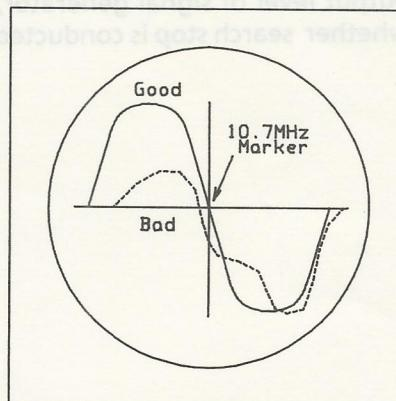

Fig. 9
- (e) Align F621 to have the waveform shown on the oscilloscope be the same as that shown in Fig.9.